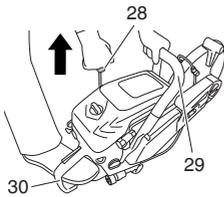

Fig. 26
- Holding the tool in position with the left hand on the front handle (29) and the right foot pressing down on the rear handle (30), rapidly pull the starter knob (28). (Fig. 26)